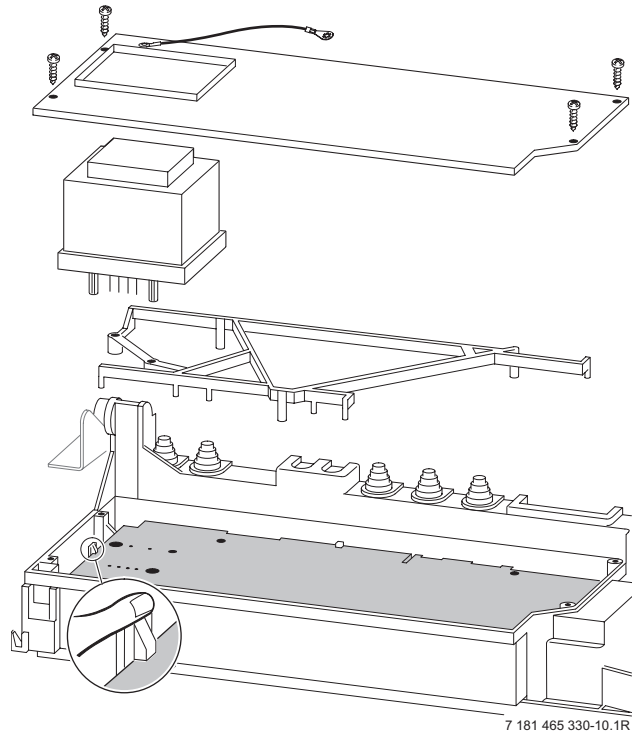

Fig. 58
- ▶ Unscrew four fixing screws from cover plate. Refer to fig. 58.